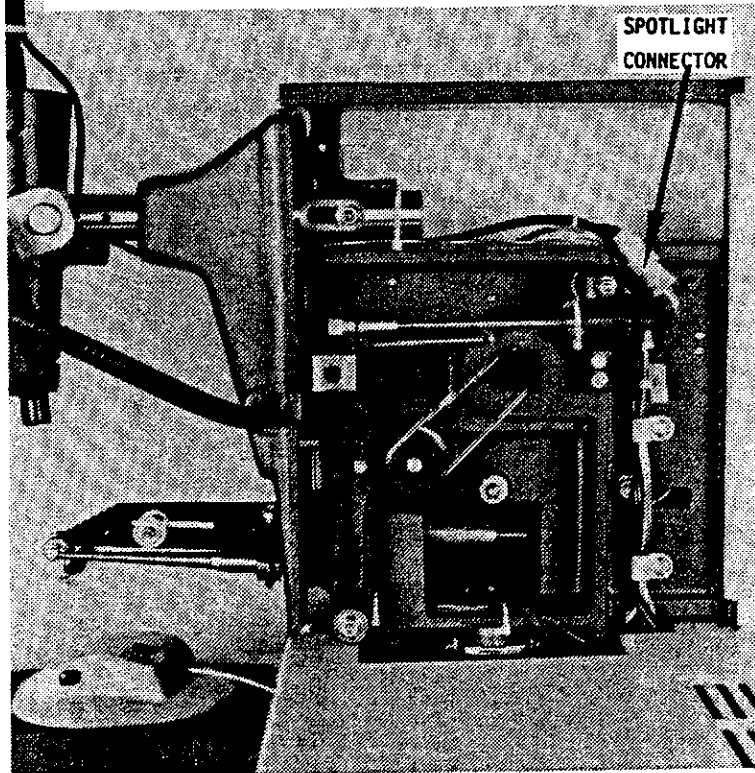

Figure 1-8 Spotlight Cord Routing
- Step 4 Lead the spotlight cord from just below microscope support to the spotlight connector at the rear and plug it in (see Figure 1-8).